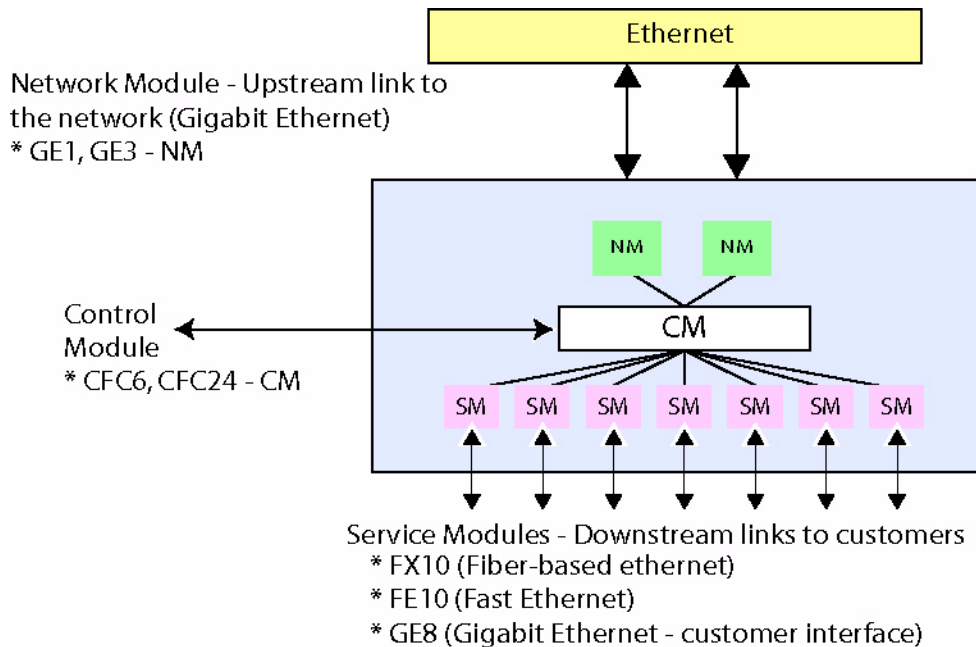

FIGURE 5-1 7000 and 9000 NM, CM, and SM for Ethernet Interfaces
Allied Telesyn uplink connections are made through gigabit ethernet Network Modules (NM). Each Telesyn is configured with at least one NM. Subscriber access to the Telesyn, and eventually the uplink, is made through a Service Module (SM). Service modules using Ethernet as their connection technology, are shown in Figure 5-1: